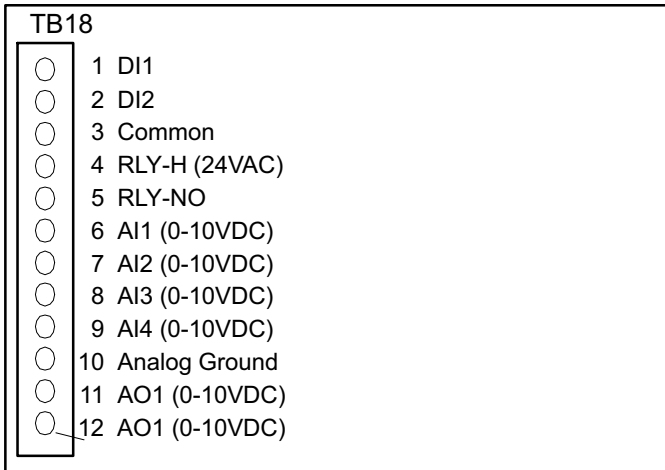

Figure 1. TB18 Connections
2. Make field wiring connections to terminal block assembly as shown in wiring diagram provided with optional component. Also refer to figure 1.